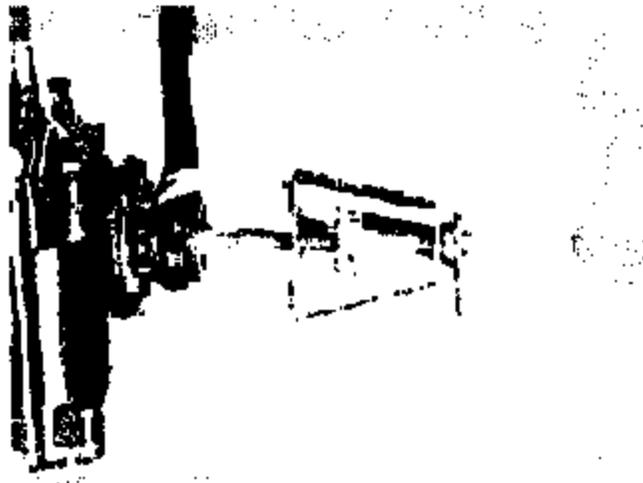

Figure 7
4. Attach a 3-jaw puller and remove pitman arm. The pitman arm will have three (3) pads for the jaws of the puller (**Figure 7**).